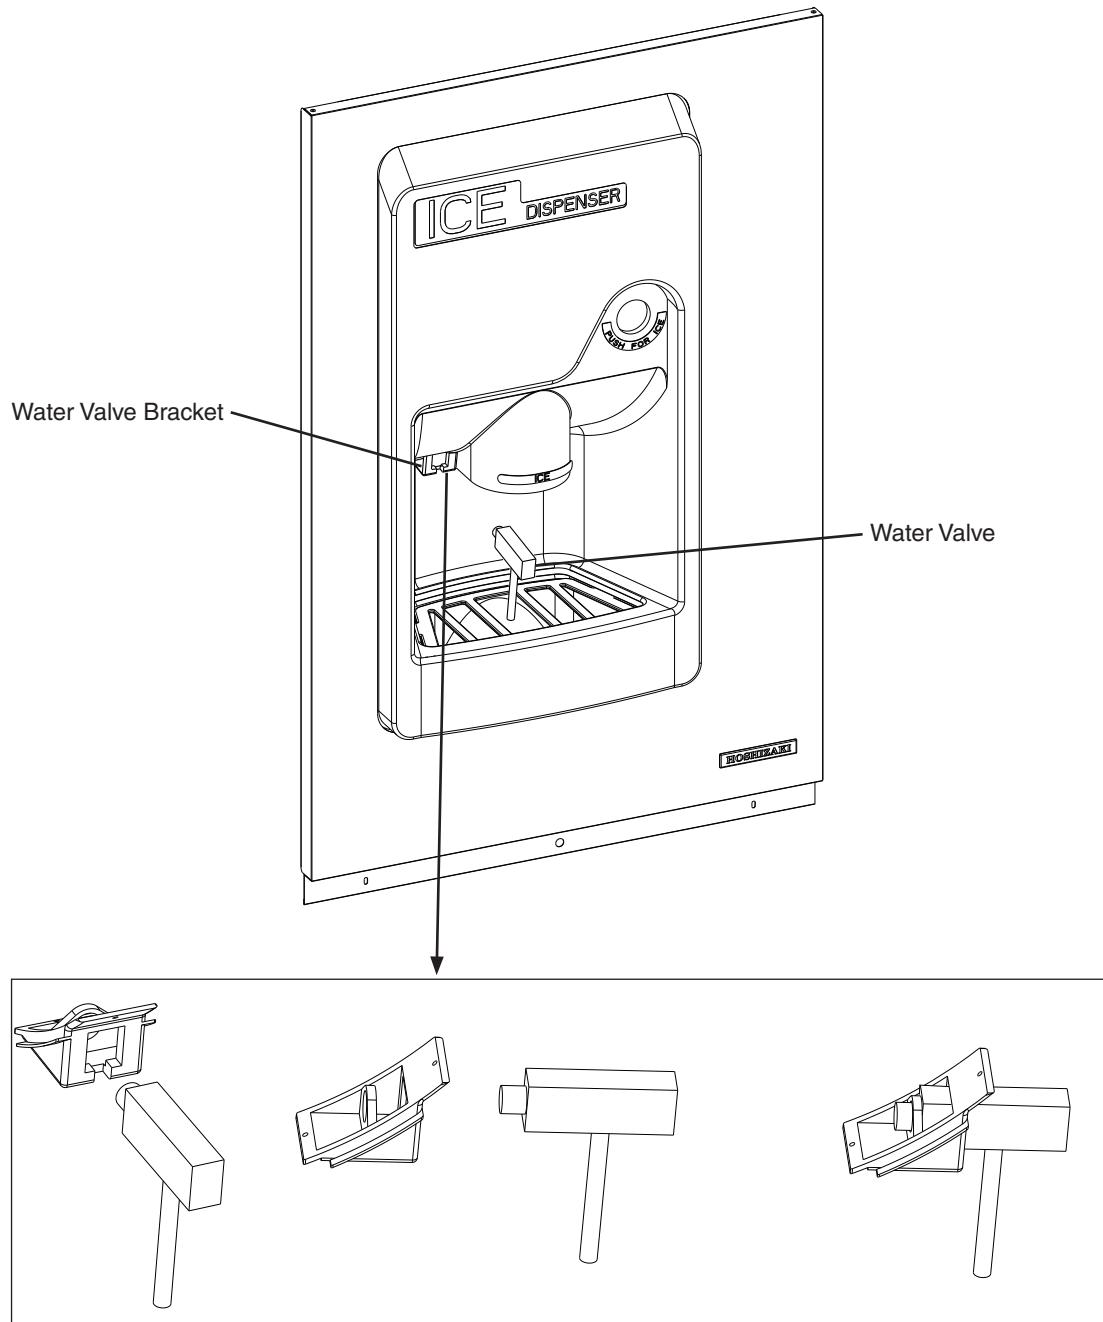

Fig. 5
10) Place the water valve provided in this kit, in its correct position in the water valve bracket. See Fig. 5.